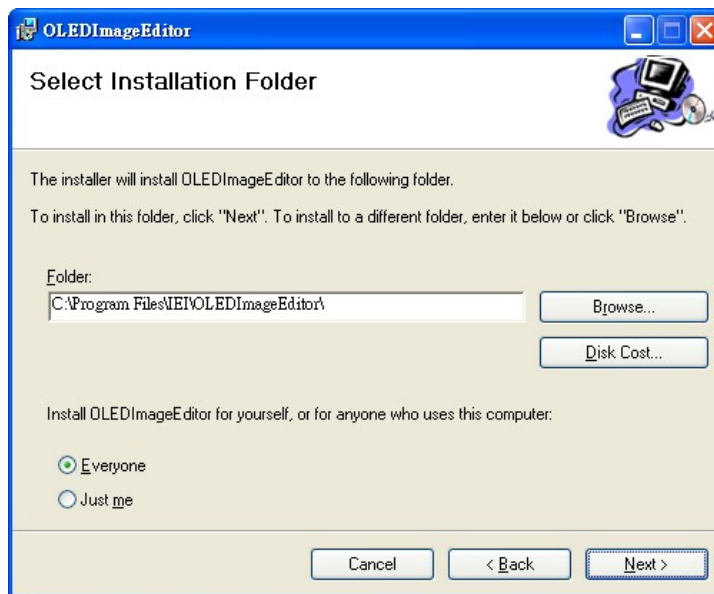

Figure 6-2: Select Installation Folder
Step 4: Select a folder for OLED Image Editor Installation in Figure 6-2. Click **Next** to continue.